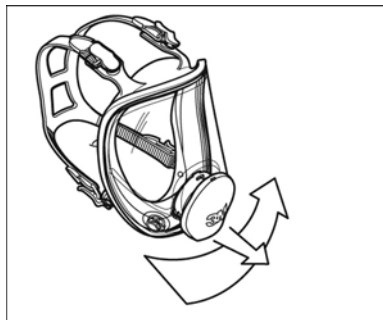

Fig. 2
2. Remove center adapter assembly by turning counter-clockwise 1/4 turn and withdrawing from lens center port. (Fig. 2)